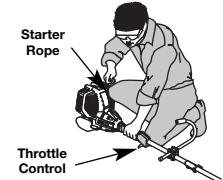

Fig. 12
4. With the unit in the starting position, do not squeeze the throttle control (Fig. 12). Pull the starter rope out a short distance, until you feel some resistance. This is usually around 2-4 inches. Then pull the rope smoothly and briskly. Repeat this 5 times. The engine should start.